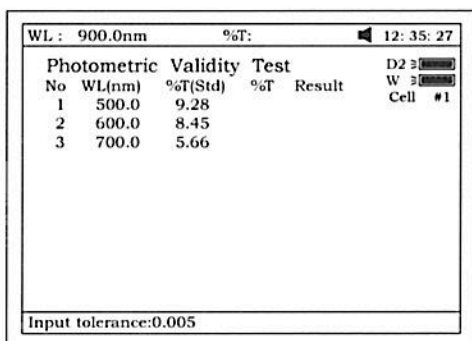

Fig 93
4. Press **【F3】** to set tolerance (Fig 93). Input the value by pressing the numeric keypad.